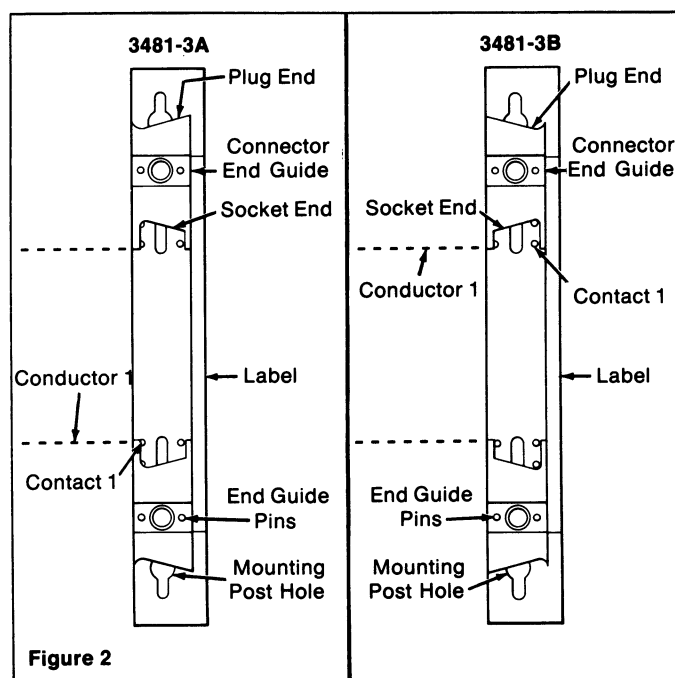

Figure 2
1. Determine the cable direction, location of conductor #1, position of contact #1 (Figure 2), and select Connector Nest A or B.